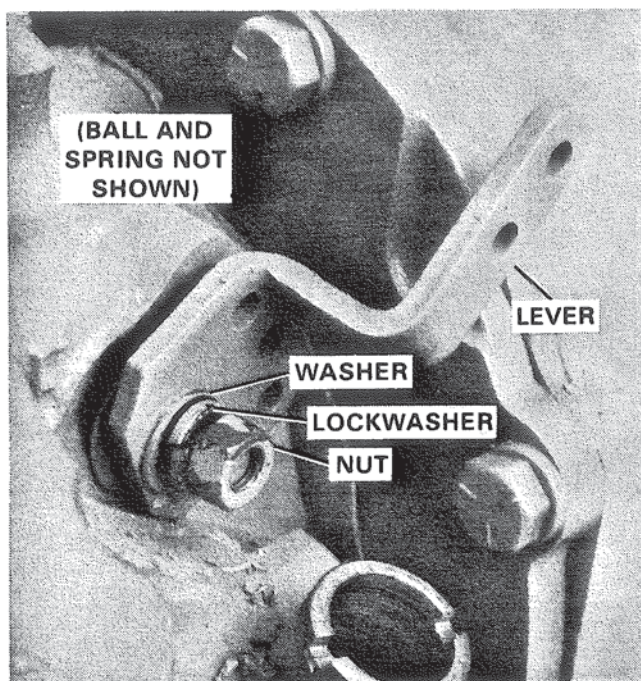

Figure 90. Assembling Shift Lever and Related Parts.
1. Assemble shift lever and related parts in the order shown in Figure 90 and torque hex nut to 8 - 11 ft. lbs. (1.10 - 1.52 kg/m). Rotation of the valve and spring assembly through the forward, neutral and